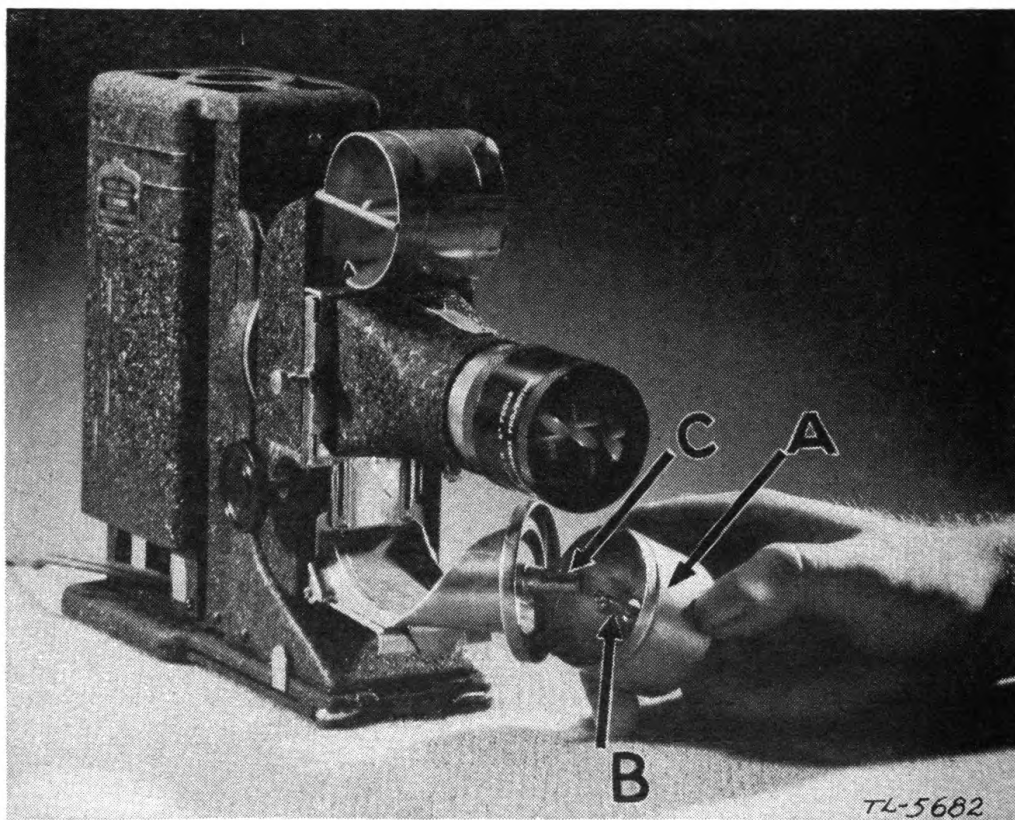

FIGURE 70.—Installing take-up can on projector PH-222.
20. Threading.—*a.* Place the take-up can *A* (fig. 70) in position by inserting stud *B* of the can in the bearing hole *C* at front end of take-up. Push can in until a slight snap is heard.